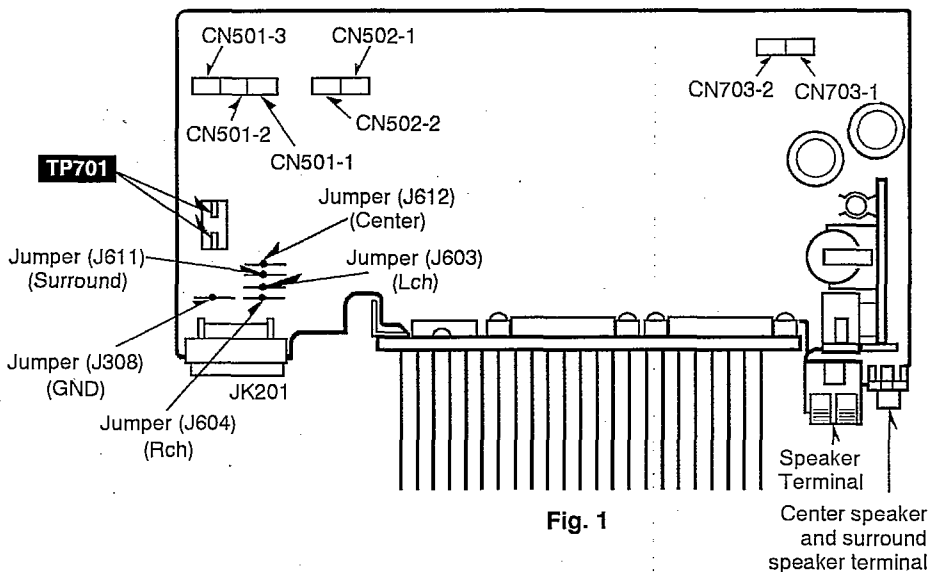

Fig. 1
- Short the test point **TP701** in Fig. 1. This unit comes to power ON mode.